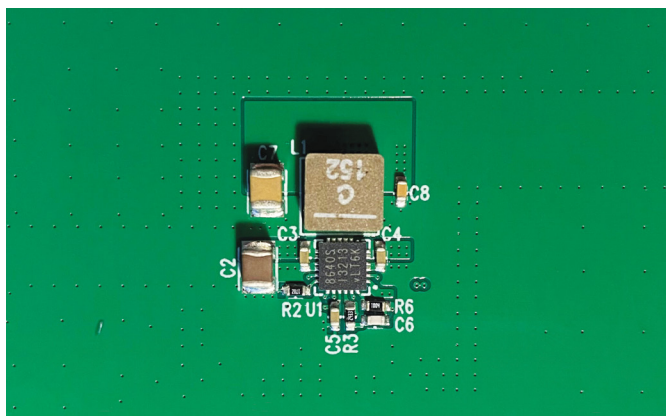

Figure 1. The board of an LT8640S switching regulator with closely spaced components and thus a compact board layout.
Figure 1 shows the circuit of an LT8640S evaluation board. It is a step-down (buck) switching regulator that can tolerate input voltages of up to 42 V and is designed for output currents of up to 6 A. All components have been placed very compactly. Placing the components as closely together as possible on the board is a general recommendation. While this statement is not false, it is also not particularly suitable if the goal is to obtain an optimized board layout. In Figure 1, there are quite a few (11) passive components surrounding the switching regulator IC.